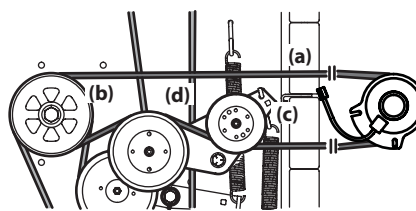

Figure 4-18
1. Remove the PTO belt (a) from the deck as instructed in the Deck Removal section then remove it from around the PTO clutch. See Figure 4-18.
2. Route the PTO belt (a) as shown in Figure 4-18.